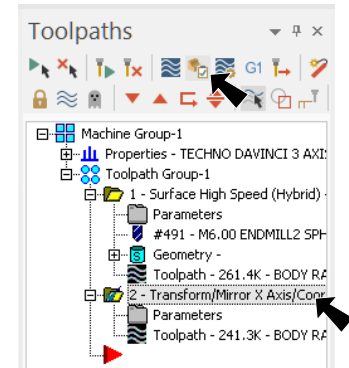

Fig. 28
Step 1. In Toolpaths Manager, click the **Transform/Mirror** toolpath, Fig. 28.
Step 2. Click **Verify**  in Toolpaths Manager, Fig. 28.
Step 3. Click **Play**  (R) in VCR bar.